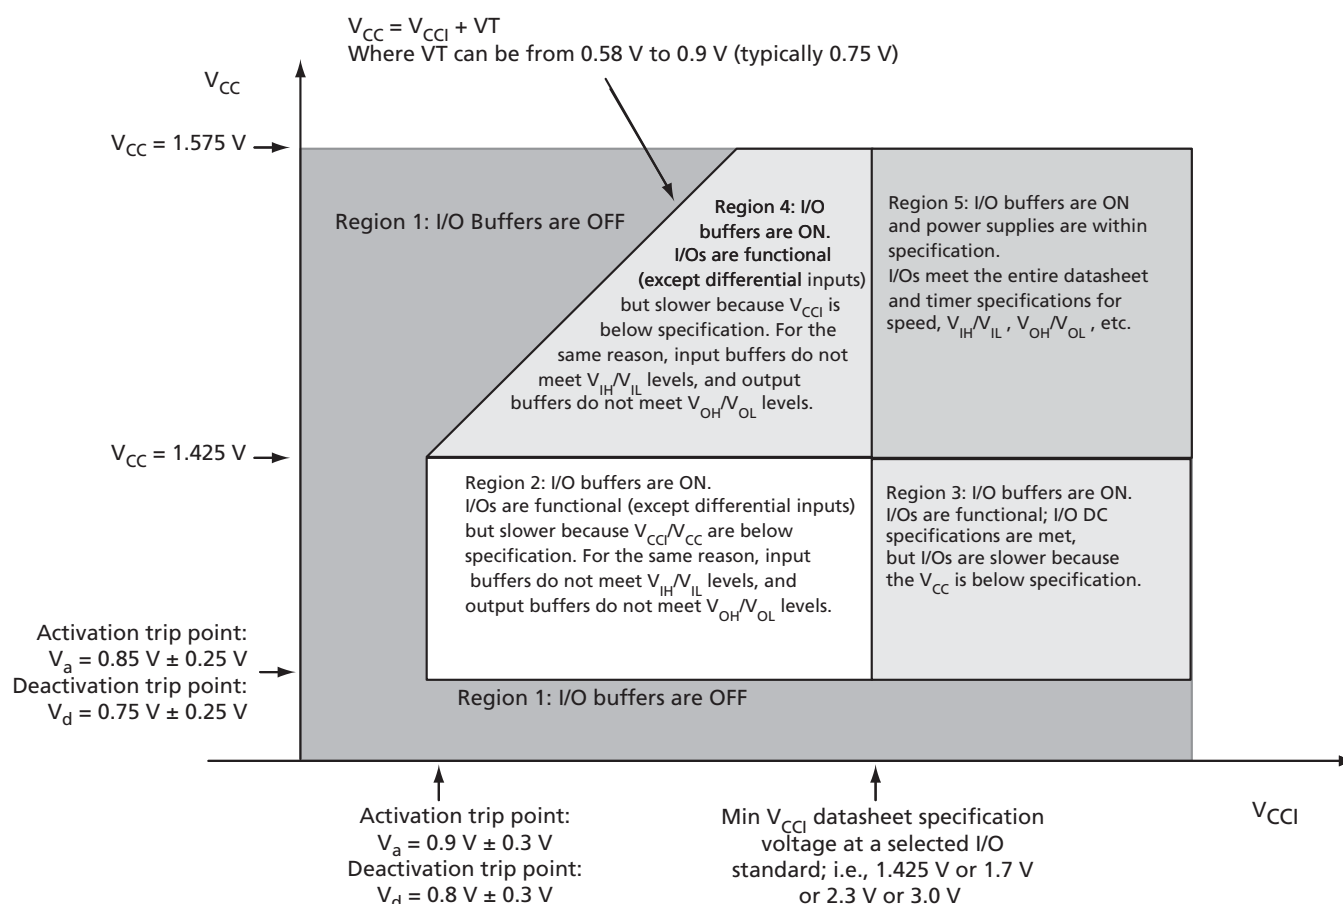

Figure 3-1 • I/O State as a Function of V_{CCI} and V_{CC} Voltage Levels
Sophisticated power-up management circuitry is designed into every ProASIC3 device. These circuits ensure easy transition from the powered-off state to the powered-up state of the device. The many different supplies can power-up in any sequence with minimized current spikes or surges. In addition, the I/O will be in a known state through the power-up sequence. The basic principle is shown in Figure 3-1.
1. V_{CC} and V_{CCI} are above the minimum specified trip points (Figure 3-1).